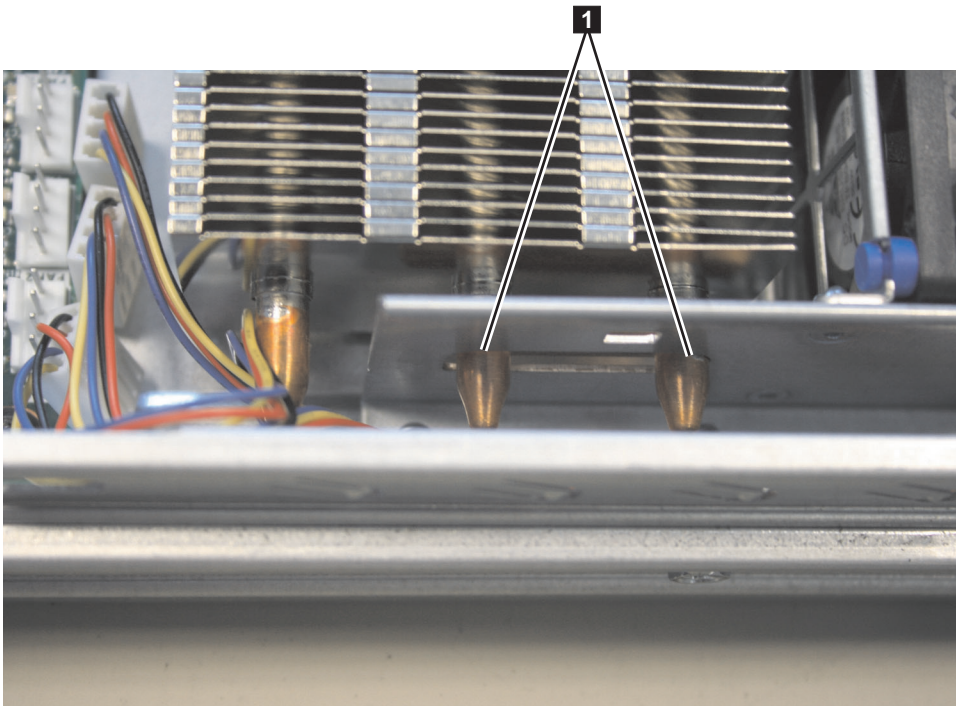

Figure 258. Alignment pins on the SAN Volume Controller 2145-8A4 heat-exchanger assembly
5. With the heat-exchanger assembly at an angle, carefully align the heat-exchanger assembly with the microprocessor and the heat exchanger retention module (socket) on the system board. Make sure that the alignment pins **1**, shown in Figure 258, protrude through the alignment hole (the opening in the side of the heat-exchanger bracket) and that the flange of the heat sink rests under the lip of the heat-exchanger socket.